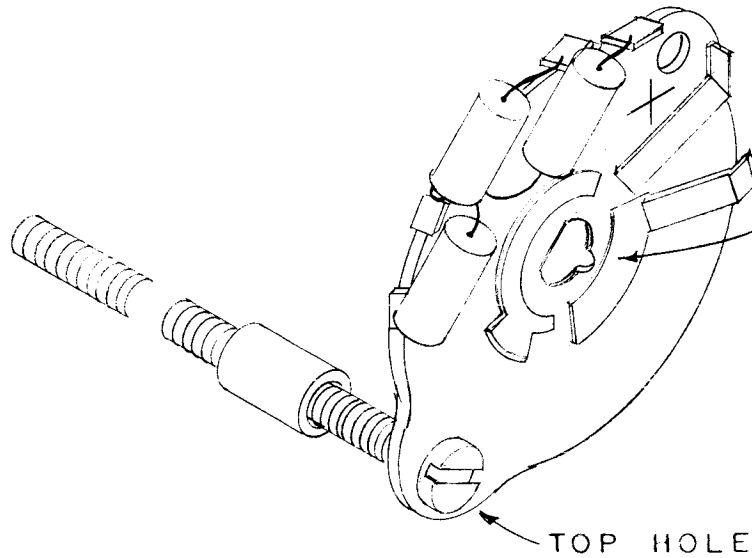

FIG. 2
5. With S1AA (new wafer) in the position shown in Fig. 2 place one of the new long screws in the top hole and add a spacer as shown in Fig. 2.